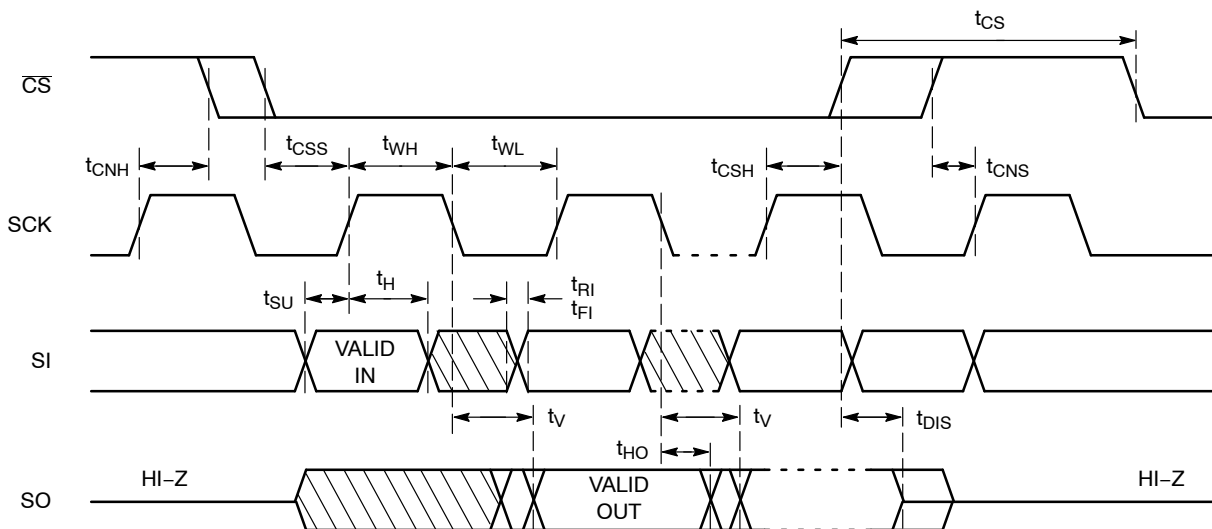

Figure 2. Synchronous Data Timing
9. All Chip Select (CS) timing parameters are defined relative to the positive clock edge (Figure 2). t_{CSH} timing specification is valid for die revision C and higher. The die revision C is identified by letter “C” or a dedicated marking code on top of the package. For previous product revision (Rev. B) the t_{CSH} is defined relative to the negative clock edge.
After a high to low transition on the $\overline{\text{CS}}$ input pin, the CAT25256 will accept any one of the six instruction op-codes listed in Table 10 and will ignore all other possible 8-bit combinations. The communication protocol follows the timing from Figure 2.